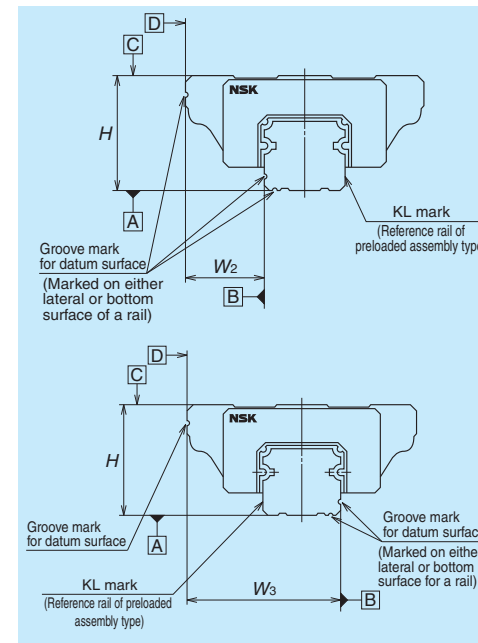
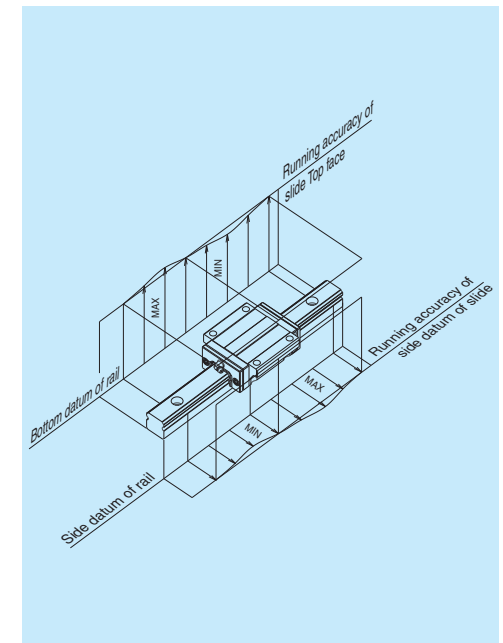

Fig. 4.1 Assembled dimensions
Fig. 4.2 Running parallelism of slide
- Table 4.1, Fig. 4.1 and Fig. 4.2 show accuracy characteristics.
Characteristics	Definition (Figs. 4.1 and 4.2)